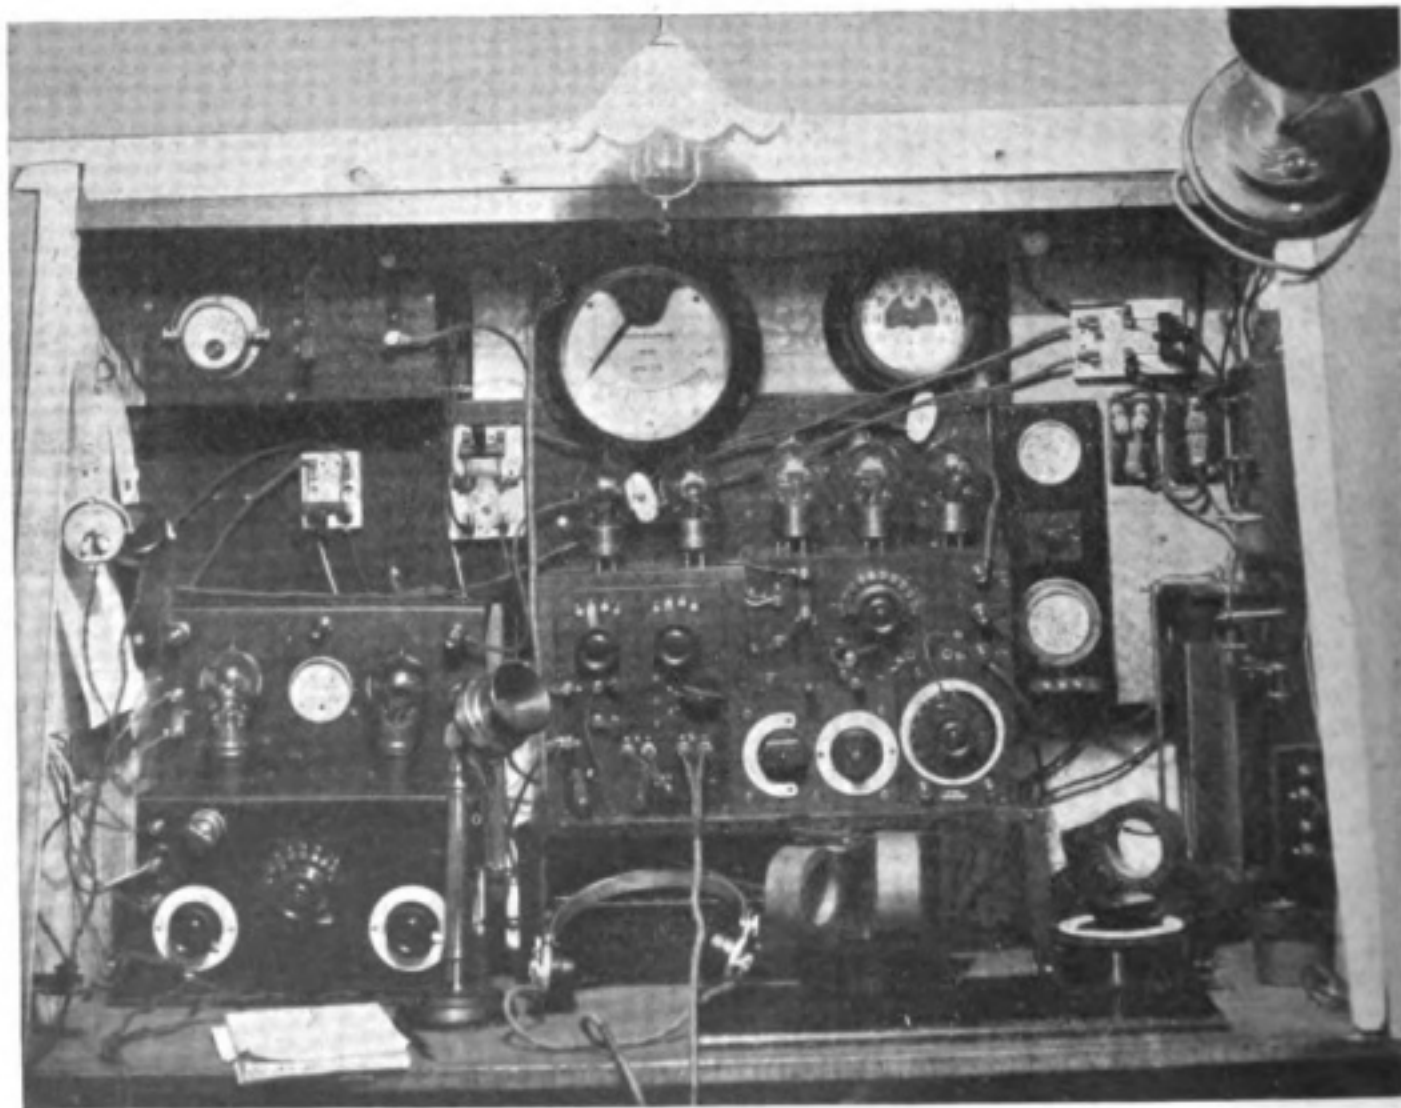

Fig. 1. The Receiving and Transmitting set of 2 KU
where  $C, R, L_p, M$  are as in Fig. 1, where  $\mu$  is the amplification constant and where
**T**HE receiving set shown in Fig. 1 is the result of about 18 months' experimenting with various methods of amplification, both high and low frequency. This set now consists of two radio-frequency amplifying valves, with tapped transformers for wavelengths of 200 to 20,000 metres, a rectifying valve, and two audio-frequency magnifying valves, with iron-core transformers. The whole is made up into a panel set with tuning condensers, series-parallel switch, and plugs for high and low resistance telephones. By the aid of six single circuit plugs and sockets, and four switches to valve filaments on panel front, any of the following nine combinations may be used:—
The C.W. and telephone transmitter shown on left of Fig. 1 is yet being experimented with, using various methods of microphone control, and on short waves 200 metres and less. The H.T. supply is at present from dry batteries, but an H.T. generator is being constructed from an old aeroplane generator to give about 500 volts D.C.; also it is intended to experiment with the A.C. transformed to 2,000 volts and rectified by valves. On the shelf above, in Fig. 1, will be seen the 180 metres spark transmitter, using an old motor ignition coil. In the right-hand top corner is a Brown's loud speaker; the large voltmeter in centre is for testing H.T. voltage of both transmitter and receiver. The aerial ammeter is in centre of C.W. and telephone transmitter, and the H.T. input ammeter on left.